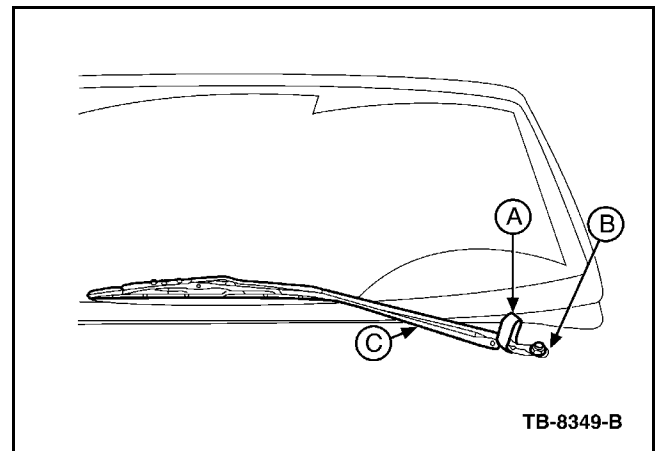

Figure 1 - Article 088-2005-5551
1. Remove the wiper pivot arm (Figure 1).